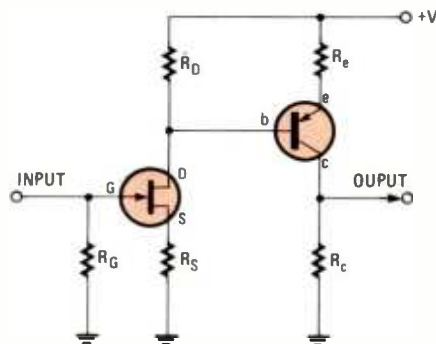

Fig. 14—This is a direct-coupled amplifier with a high input impedance FET stage and a PNP gain stage.
34. (direct coupled) A popular variation of direct coupling is shown in Fig. 14. An FET is used at the input to give the circuit a
Connecting capacitors across R_s and R_c will cause the AC gain of the circuit in Fig. 14 to